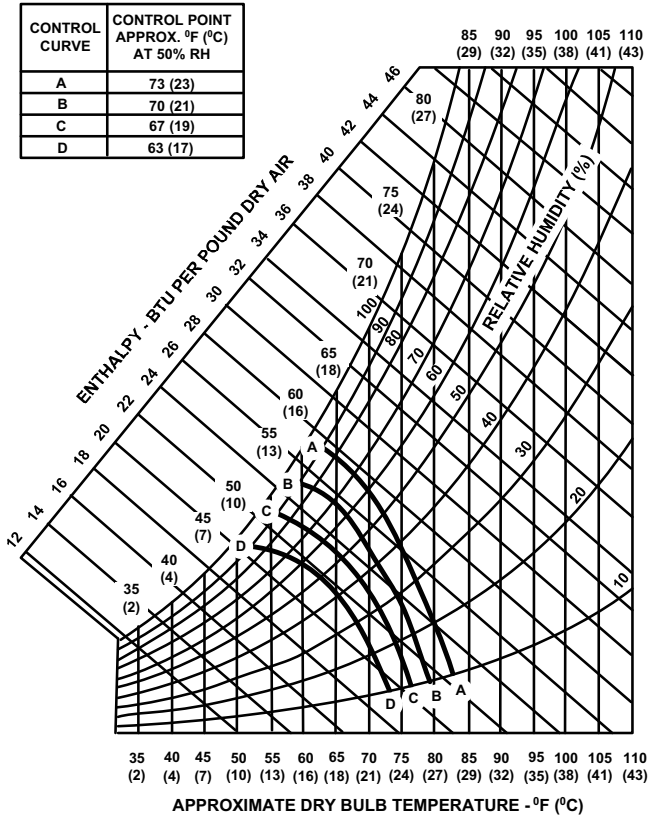

Figure 28: Enthalpy Set Point Chart
- The enthalpy set point may now be set by selecting the desired set point shown in the Enthalpy Set Point Adjustment Figure 28. Adjust as follows: